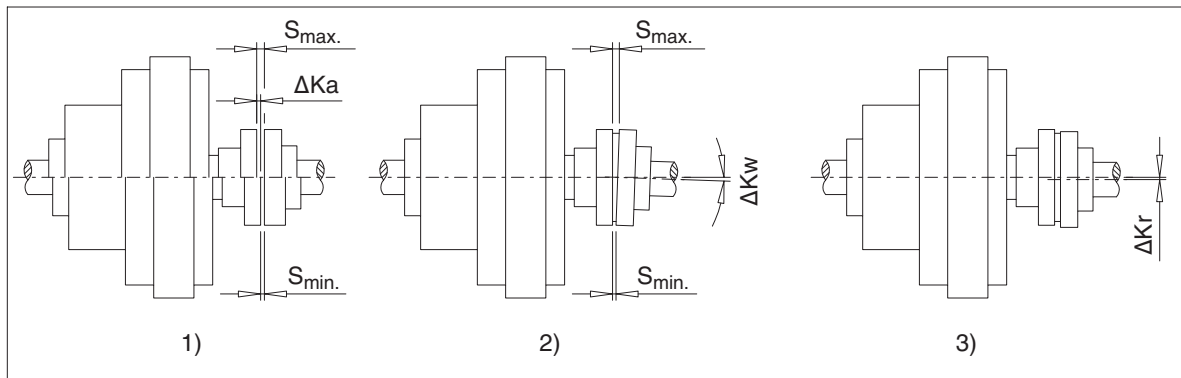

Fig. 10: Possible misalignments
Axial misalignment ΔK_a (Fig. 10) of the coupling parts relative to one another is permissible within the "permissible deviation" for dimension "S" (see order-related title page).
The angular misalignment ΔK_w (Fig. 10) can usefully be measured as the difference in the gap dimension ($\Delta S = S_{\max} - S_{\min}$). For the permissible values for the difference in the gap dimension, refer to item 6.5.4.
For the permissible radial misalignment $\Delta K_{r \text{ perm.}}$ (Fig. 10) – depending on the operating speed –, refer to item 6.5.4.